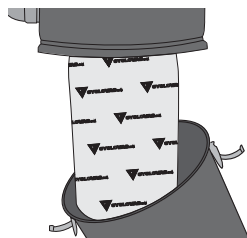

figure 13
1. To remove the filters, first remove the dust receptacle (**figure 13**).